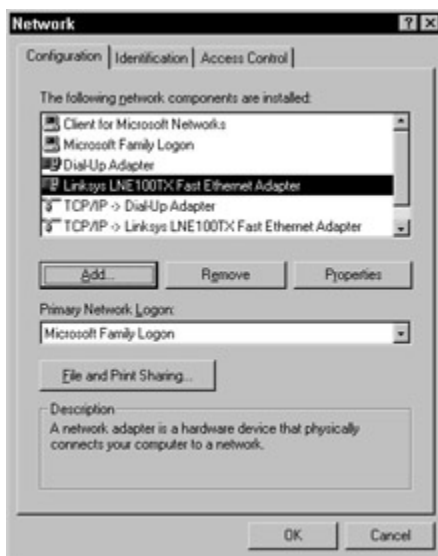

Figure 22-7: The Windows 98 Network window is used to configure a NIC.
The Network window (see Figure 22-7) is used to configure a PC's network environment. Four network components can be configured from the Network window. They are the following:
2. From the Control Panel, double-click the Networks icon to open the Network window, shown in Figure 22-7.